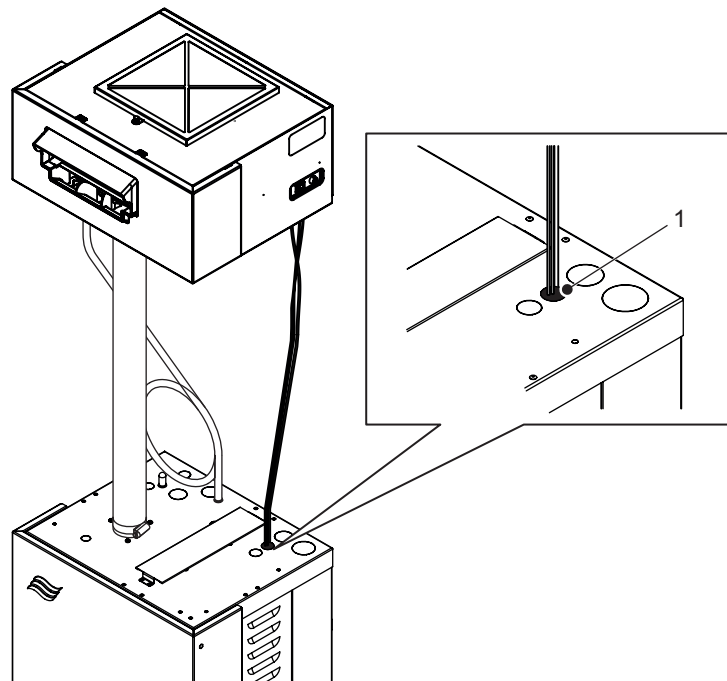

Figure 14: Cable Routing
- b. Install the grommet (supplied) in the knockout hole that is located directly below the blower pack power connector, and route the cables through the grommet, as shown in Figure 14.